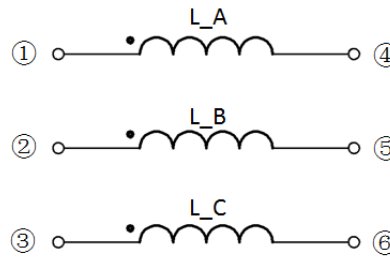

Fig.4-2
- 2) Equivalent circuit: See Fig. 4-2.